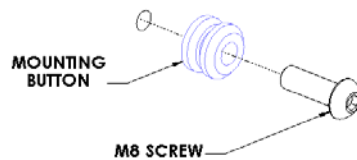
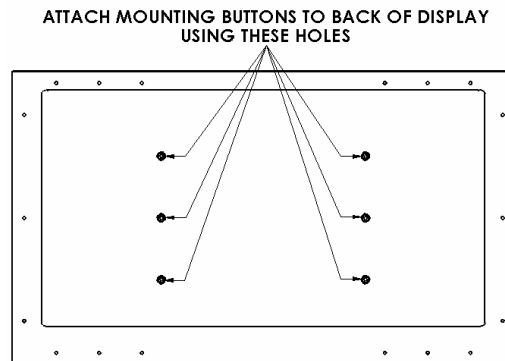

Figure 3
Figure 4
2. Attach mounting buttons to the display using six M8 screws provided (see Figure 3 & Figure 4).